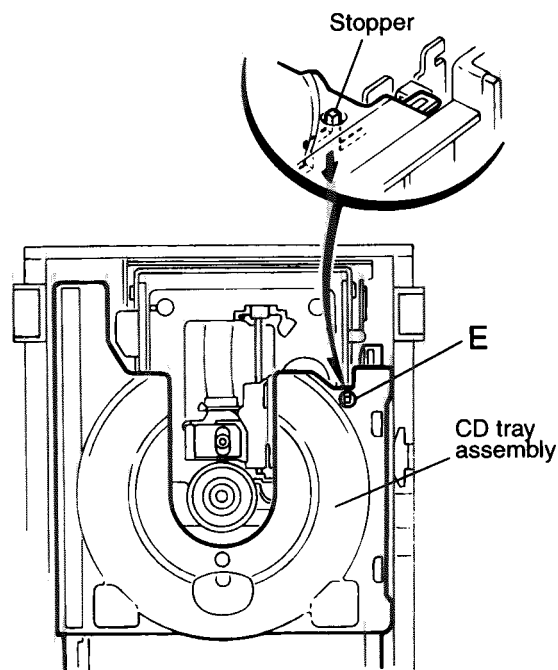

Fig.5
11. Check whether the lifter unit stopper has been caught into the hole at the section E of CD tray assembly as shown in Fig.5.